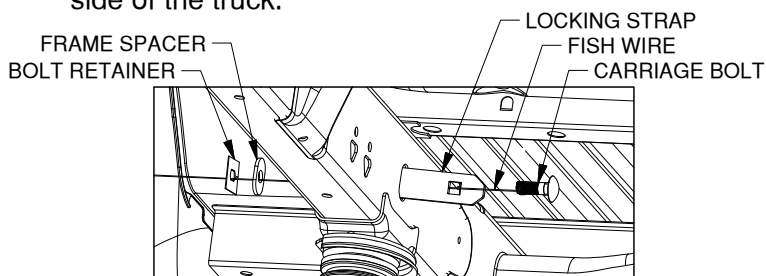

**Figure B2:** Detail view over bed, showing drill locations for the forward and rear mounting rails.
- 2. Mark hole locations.** While carefully ensuring the mounting rail does not move, use a center punch tool to mark the 5 drill locations on the rear rail. See Figure B2 for hole marking locations for this installation (forward rails will install in a later step). Once all 5 rear rail locations are clearly marked, move the bed rail out of the way and drill each location with an 1/8" drill bit.
- 4. Drill forward mounting holes.** Using the same methods as used for the rear mounting rail, mark, drill, check, and enlarge the holes for the forward mounting rail. Start at "DRILL REAR MOUNTING HOLES" section, Step 2, on a previous page. Notice that the hole locations are slightly different than the rear rail, see Figure B2 (on the third page).